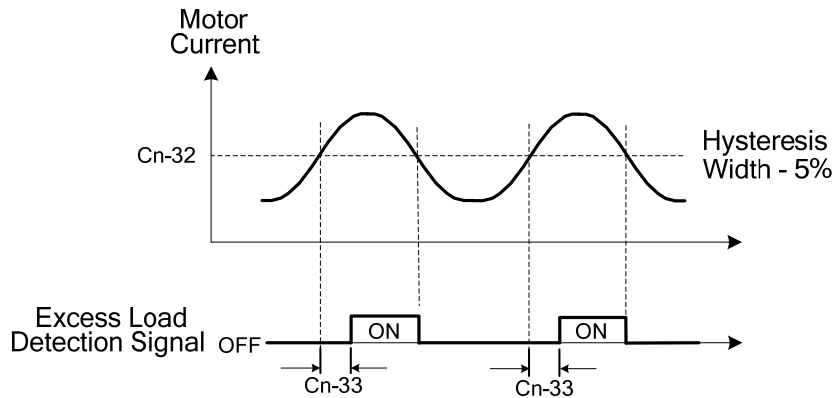

Fig. 9.2.2.8 Excess Load Detection
- An excess load condition is detected when the output current exceeds the Excess Load Detection Level (Cn-32) for longer than the Excess Load Detection Time (Cn-33). (See Fig.9.2.2.8)